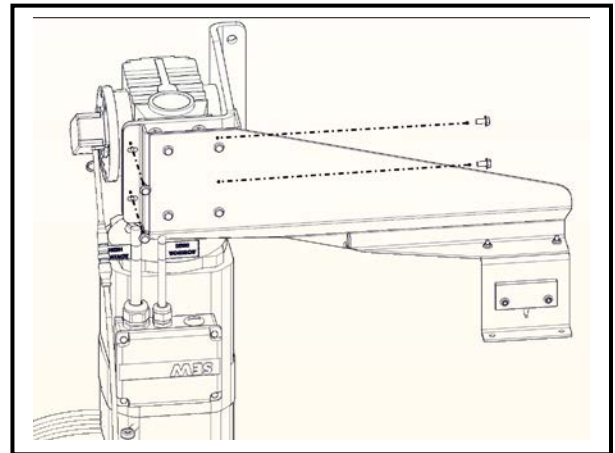

Figure 25
2. Locate the four ¼-20x½" Hex bolts in the encoder small parts bag taped to the encoder wireless assembly bracket. Lift the wireless assembly bracket into place and install the four bolts. (See Figures 25 & 26)